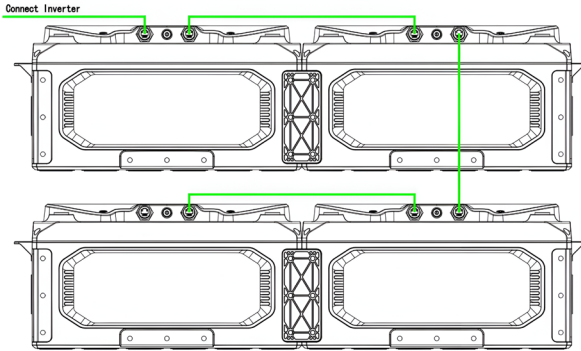

Figure 5: HUSKY 2 Communication Cable Connection Diagram
4. When using a single battery, connect it directly to the SoC Meter using Address No. 1. If there are multiple batteries in parallel, designate battery No.1 as the master, connecting it to the SoC Meter. The remaining slave batteries should interconnect their communication ports in a daisy chain sequence using a communication network cable (UTP), as shown in Figure 5 on the following page. It's essential to ensure that the addresses of the slave batteries are distinct from one another.